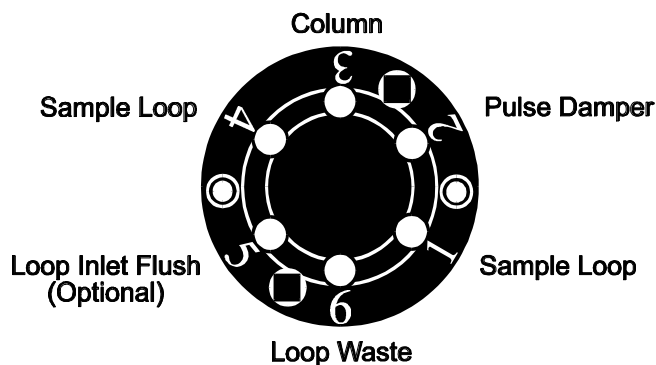

Figure 4
4.3.1 Connect the sample loop to the ports 1 and 4. The pulse damper is connected at port 2 and the column at port 3 as shown in Figure 4.